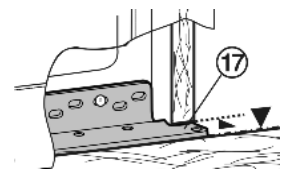

Fig. 27
- ▶ Push the appliance into the recess until the lower turn hinge Fig. 27 (17) abuts the end face of the unit wall.
- ▶ The turn hinge Fig. 27 (17) bears on the floor of the recess.